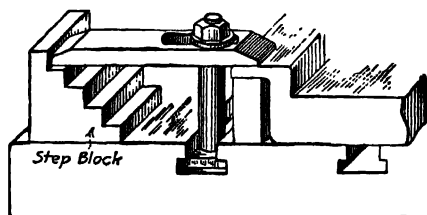

Fig. 8-35. Using step block.
be used. Have the wood of sufficient cross section to give the needed stiffness, and arrange it under the clamp so that the pressure will be exerted *lengthwise of the grain*, so that it will not crush. Figure 8-35 shows a step block which is very useful. Both bases are finished and either may be used.
4. The clamp must not be placed over a part that will spring under pressure until a shim or packing block is placed under that part (Fig. 8-35).